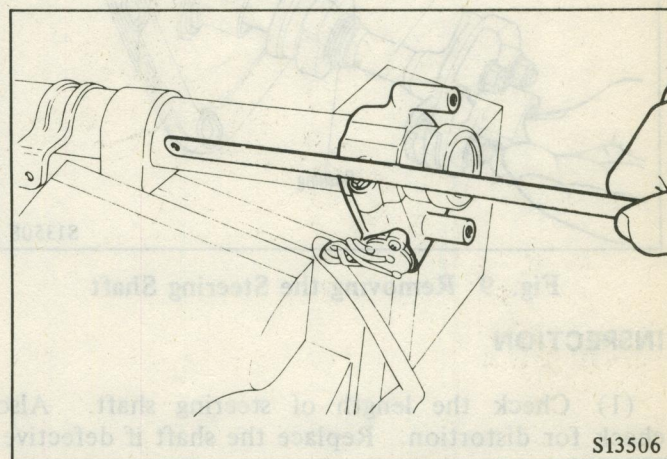

Fig. 7 Removing the Steering Wheel Lock Bracket
(5) Remove the dust cover retaining bolts and the dust cover.
(6) Remove the tilt bracket attaching bolts and take out steering column with the tilt bracket attached.
(7) When removing the tilt bracket make a slit in the steering lock bracket attaching bolt head with a hacksaw. Then remove the steering wheel lock. (Fig. 7)